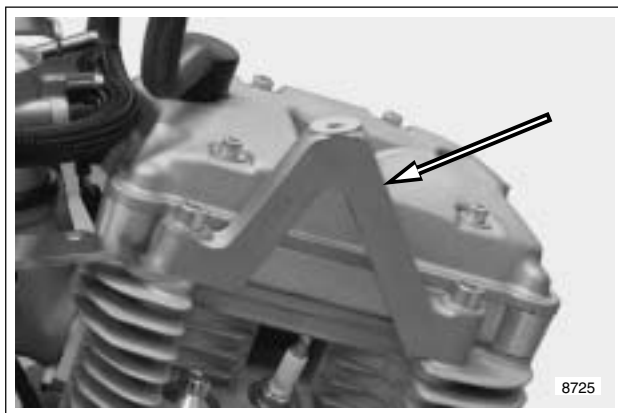

Figure 3-29. Center Tie Bar Mount
- See Figure 3-29. Center tie bar mount.